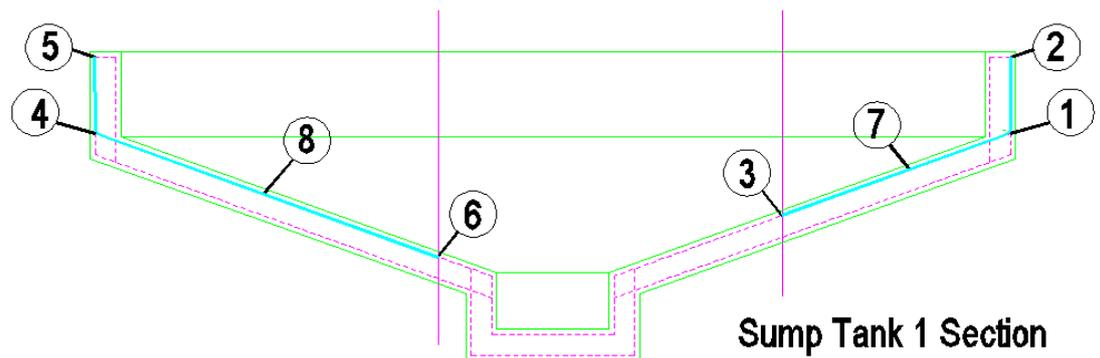

Figure 5.1.14:1 Adding two Shape Code 128's as different Bar Marks
- ▶ Figure 5.1.14:2 below shows where to pick the following points to place the bar: